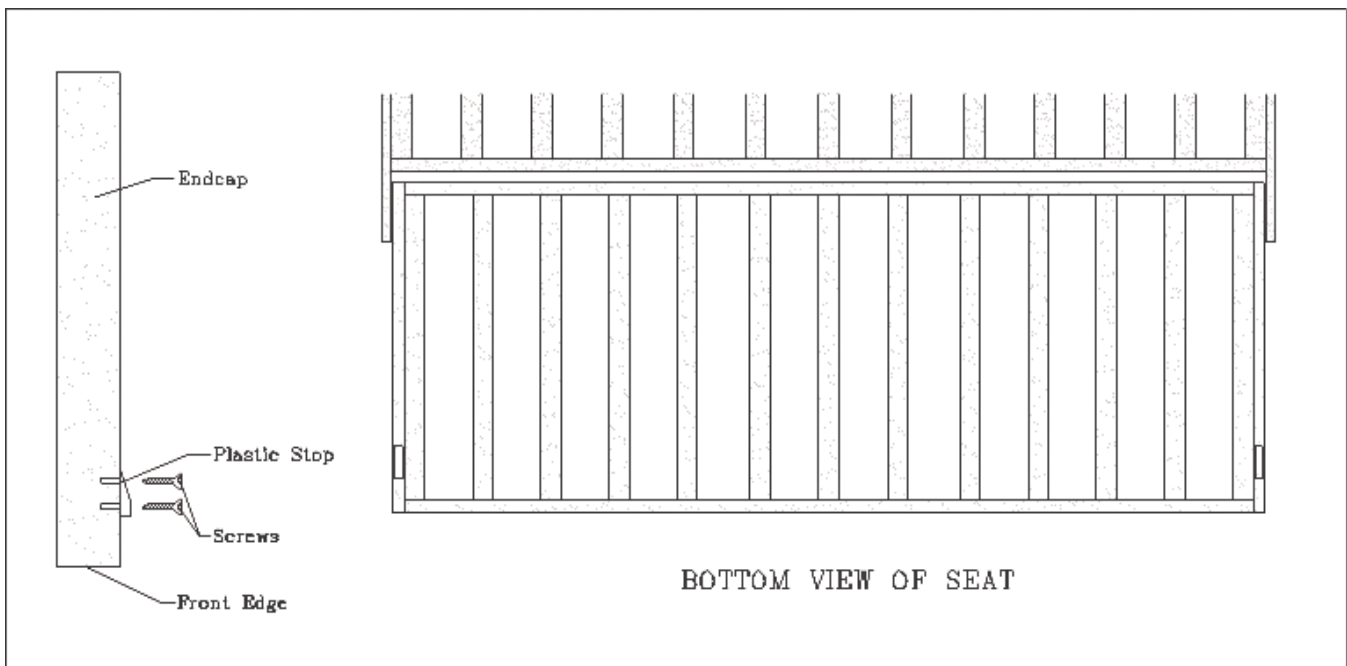

Figure 4
- 5) Locate plastic stops. Locate four small holes on bottom of seat (2 at each end). Insert stops into frame (Figure 4). Use Phillips screwdriver to set screws. Do not use a screw gun and be careful not to over tighten screws.